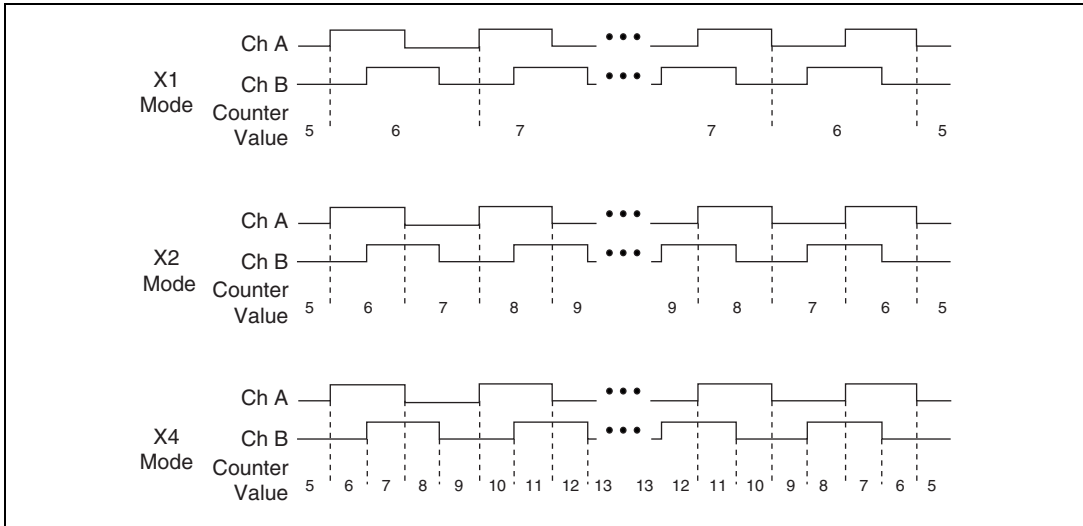

Figure 2-5. Relative Position Sensing
The software initially loads the counter with a value corresponding to the initial position of the object. Upon reaching terminal count (TC), the counter rolls over. You can obtain the relative object position at any time by asynchronously reading the counter value. Figure 2-5 shows an example of relative position sensing. The counter configuration is as follows: